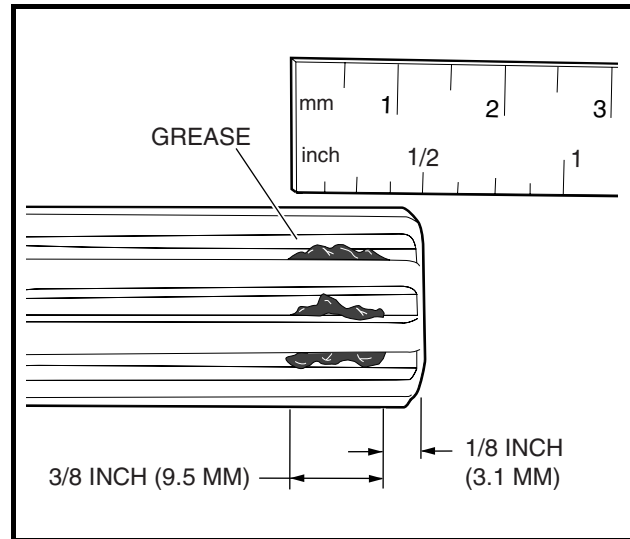

Figure 22a-14 Application of grease to Input Shaft Grooves
- 2.6. Check the chamfer and end of the input shaft to ensure these areas are completely clean of grease as shown (**Figure 22a-15, Page 22a-13**).